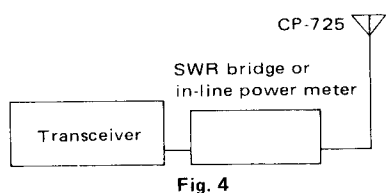

Fig. 4
1. Connect suitable swr bridge or in-line power meter such as WELZ SP-600 as shown in Fig. 4.